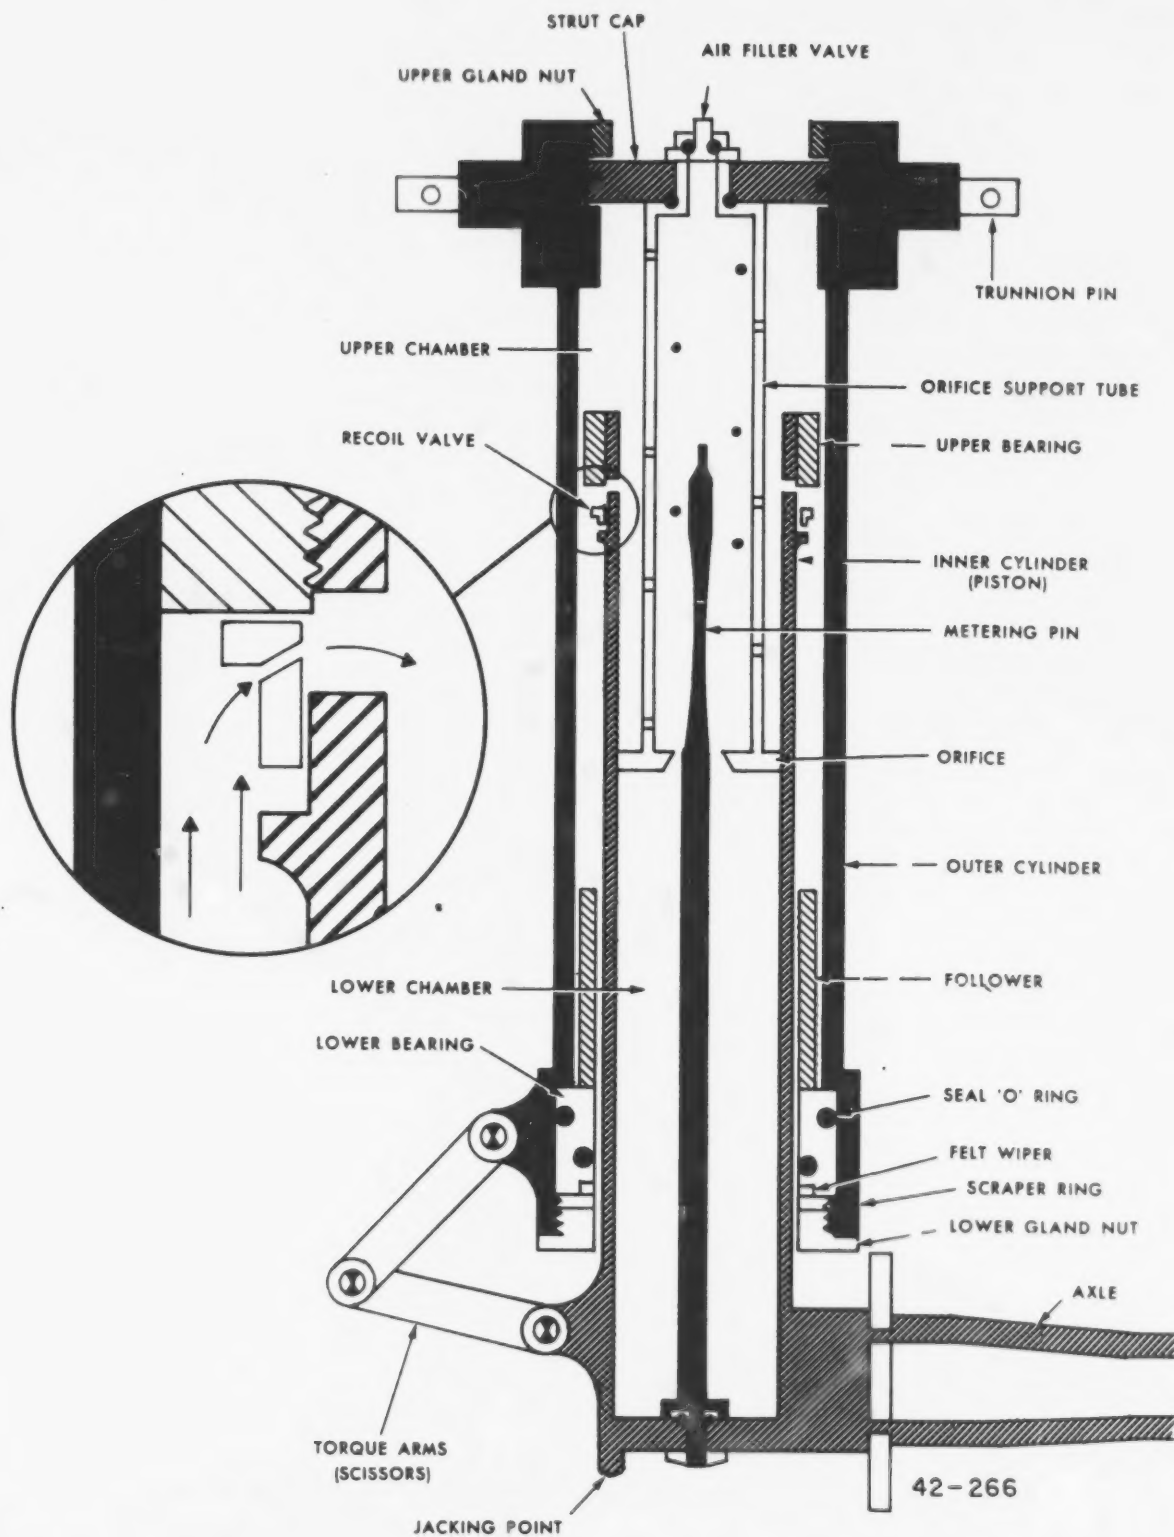

Figure 6-1. Main gear strut.
As shown in figure 6-1, the shock strut is made up essentially of two telescoping cylinders. They are the outer cylinder and the inner cylinder, which is sometimes called the piston. The two cylinders, when assembled, form an upper and a lower chamber, which are separated by the orifice. The lower chamber is always filled with fluid; the upper chamber contains fluid and compressed air (nitrogen). Most shock struts employ a metering pin to control the rate of fluid flow through the orifice. Notice the shape of the metering pin. On other types of shock struts, a metering tube replaces the metering pin, but shock strut operation is the same.
- Using figure 6-1, associate the functions in column A with the individual parts of the strut in column B with its name. There may be more than one answer for each function.
Compression Stroke. (See fig. 6-1.) During an approach for a landing, the shock strut is in the fully extended position. As the wheels strike the ground, the inner cylinder is forced up into the outer cylinder. This action will force the fluid in the lower chamber up into the upper chamber through the orifice. The metering pin is also forced through the orifice; and, by its variable shape, it controls the rate of fluid flow at all points into the upper chamber on this compression stroke. This restriction of fluid flow absorbs most of the landing impact. As the fluid is forced through the orifice, it compresses the air in the upper portion of the outer cylinder. This compressed air acts like a spring and aids in cushioning the shock strut. Notice that the recoil valve in figure 6-1 is open during the compression stroke. This allows a free flow of fluid between the inner and outer cylinders when the upper bearing is forced to move away from the extension stop.
Extension Stroke. When the force of landing decreases, the pressure of the air (nitrogen) on the hydraulic fluid forces the fluid back through the orifice and causes the inner cylinder to extend. As the inner cylinder moves down, it causes the upper bearing to move closer to the spacer (extension stop). The fluid that is between these two items must escape in order for the inner cylinder to continue to move down. This fluid flow causes the recoil valve on the inner cylinder to move up over the large fluid passages in the inner cylinder. (See exploded view in fig. 6-1.) The fluid must now pass through small holes in the recoil valve. This restriction to flow provides a snubbing action to prevent rapid rebound of the strut. The strut will slowly extend until the upper bearing contacts the extension stop. While the strut is extending, the fluid in the upper chamber has to flow through the orifice and the metering pin.
Use figure 6-1 to assist you in describing the operation of the shock strut.